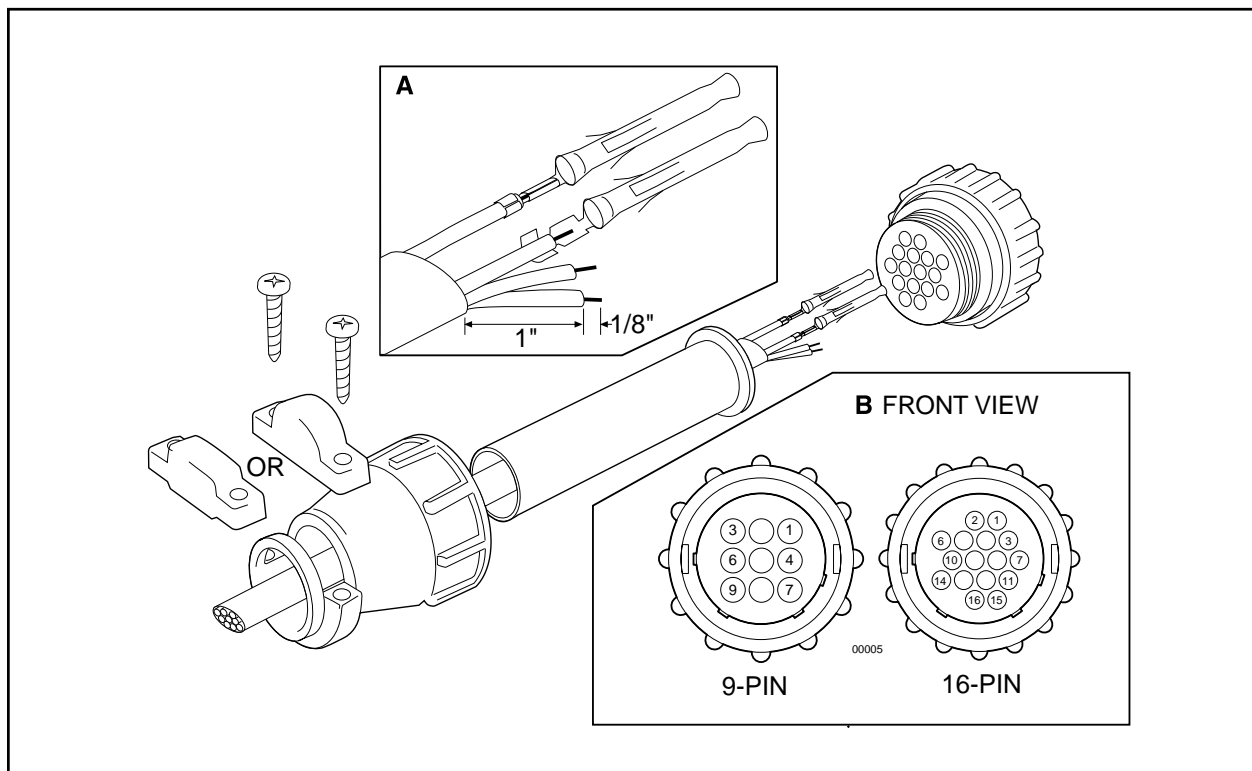
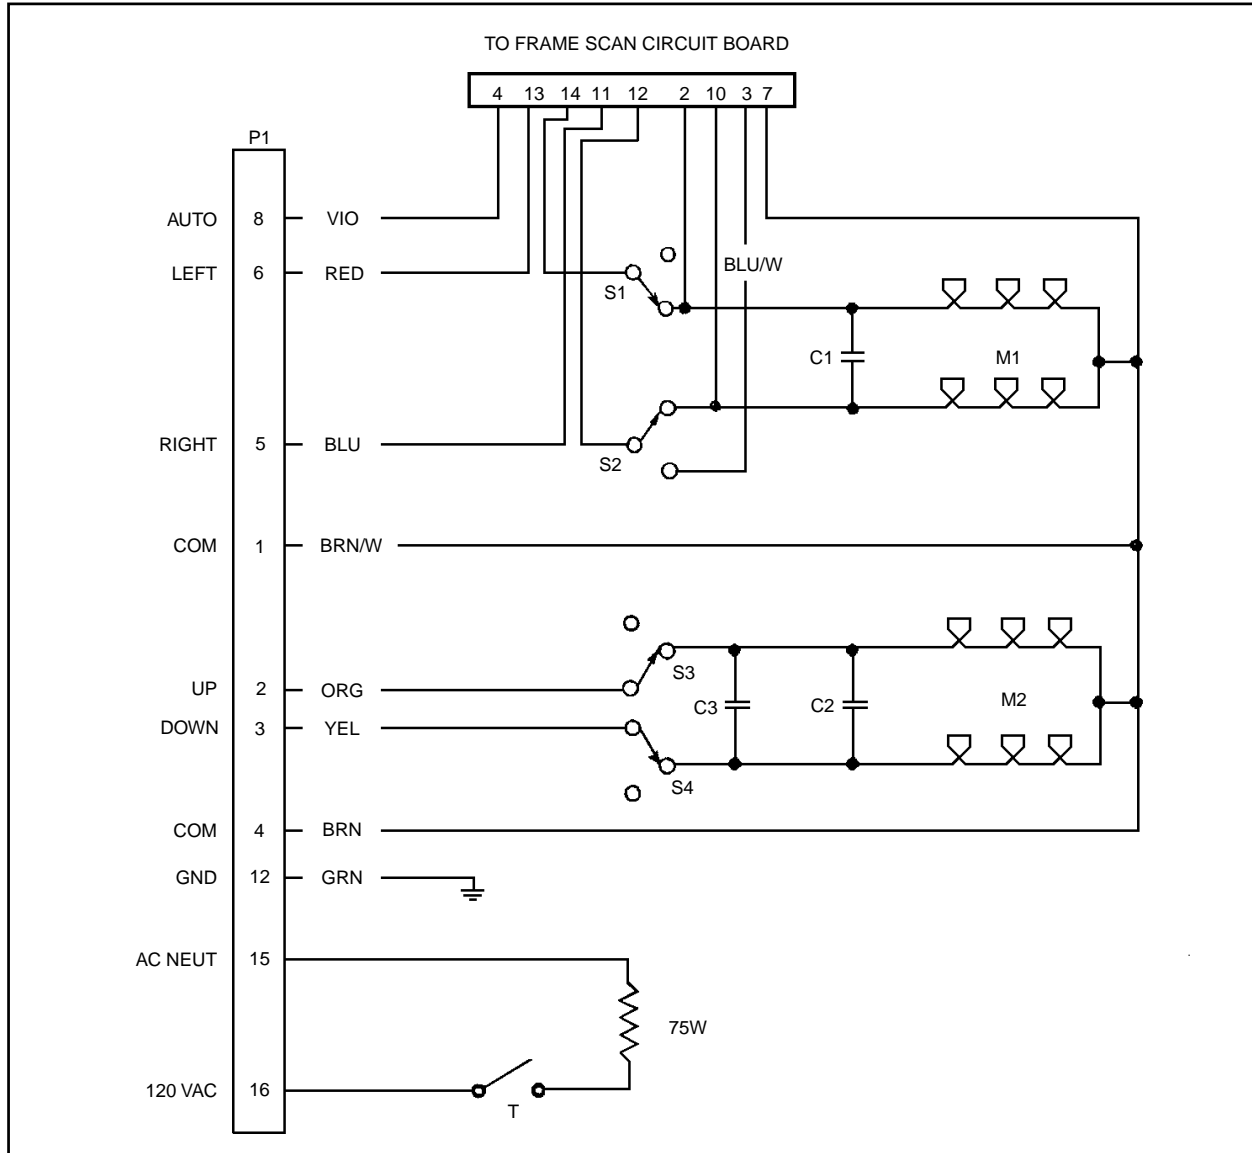

Figure 2. Connector Assembly
Figure 3. PT573R/PT573-24R Wiring Schematic
To assemble the mating connectors, refer to Figure 2 and perform the following steps.
2. Refer to Detail A in Figure 2. Prepare the wires from the conductor cable as follows:
3. Slide the connector pins into the appropriate holes in the connector body until they snap into place. Refer to detail B in Figure 2 and to Figure 3 for correct pin arrangement, depending on model and options.
Refer to Figure 3 for the following steps.